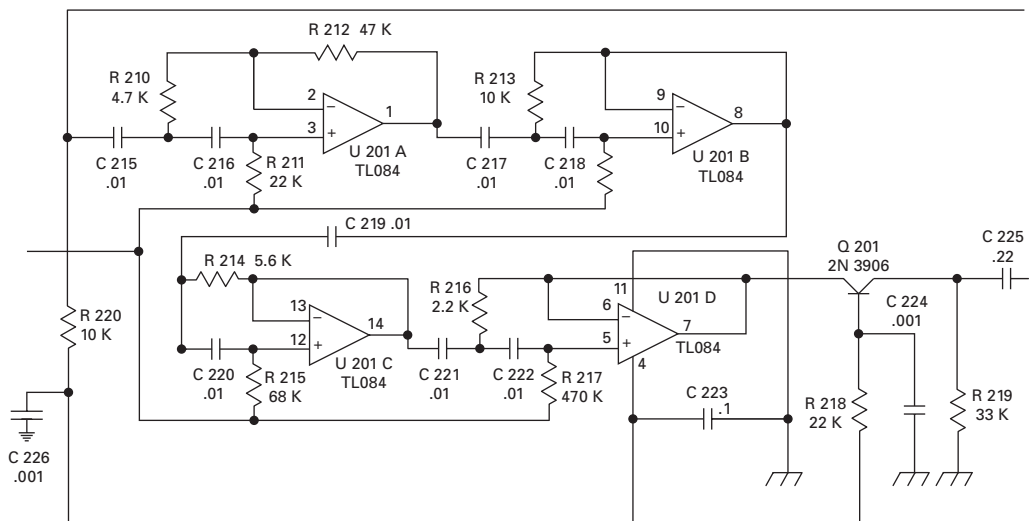

FIGURE 8-2 Section of a schematic diagram
- **Schematic diagram** This shows all the components and interconnections but does not indicate their purposes by specifying sections or overall structure. This is the street-level map. See Figure 8-2.
Every part normally has its own call number, but multisection integrated circuits such as op-amps may be shown with each section as a separate device, even though they're really in one package. In Figure 8-2, the TL084 chip has four sections, each labeled A, B, C or D. On another schematic, the same component could be drawn as one rectangle resembling the shape of the real thing, with all four sections inside. In that case, each section's triangular op-amp symbol might be drawn inside the little box, but you can't count on that. Presenting the part as separate sections helps keep the signal flow clearer and is the preferred method.